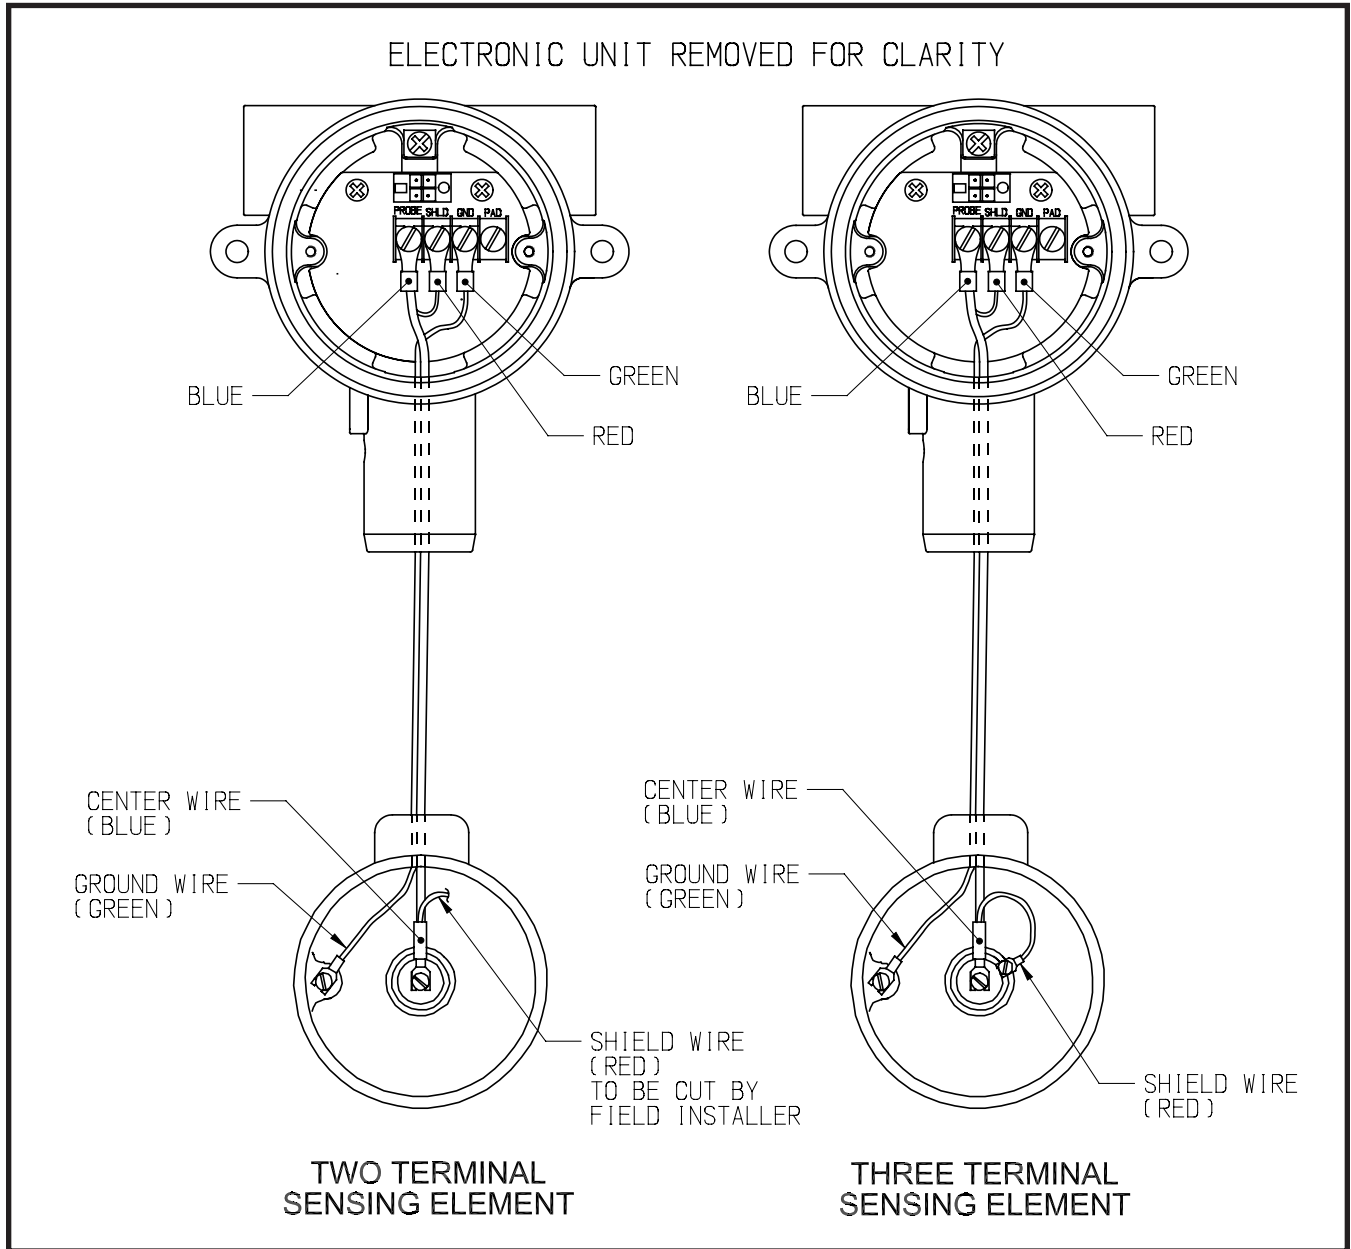

Figure 3
The cable connections to the remote sensing element are shown in **Figure 3**
- If the sensing element does not have a shield connection, be sure to clip and/or tape the shield wire at the sensing element end of the cable only. See Figure 3
The cable from the sensing element is connected to the terminal strip below the instrument chassis. The cable connections are probe, ground (GND) and shield (SHLD) - **See Figure 3**